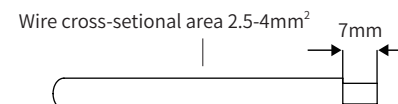

Figure 4-8
- 2) Peel off the DC cable insulation sleeve for 7 mm, as shown in Figure 4-8: